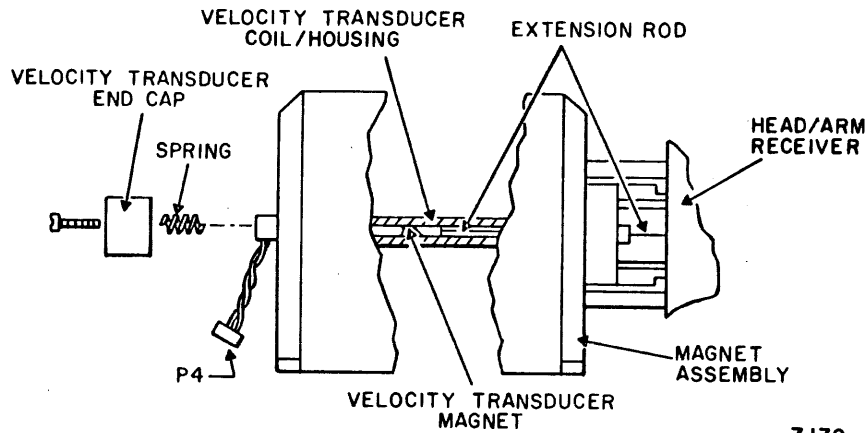

Figure 3-37. Velocity Transducer Replacement
5. Disconnect velocity transducer cable plug P4 (Figure 3-37).